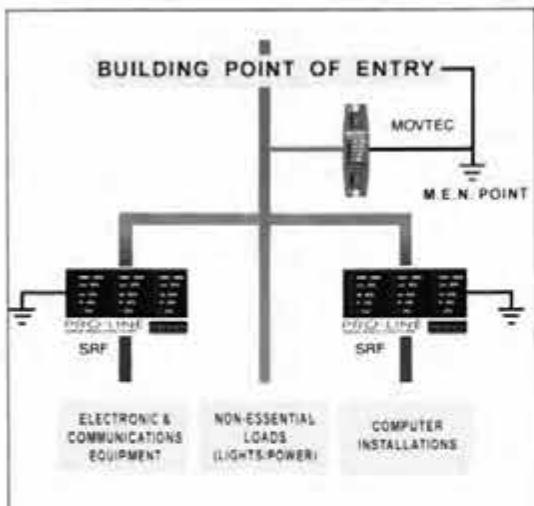

FIGURE 3. Proline SRFs are ideal for point of entry protection of main and sub-circuits
**Proline SRFs must be well earthed** in accordance with relevant National Electricity Standards. It is important to create an equipotential earth plane to eliminate earth loops. Proline SRFs should be installed physically close to the incoming power lines and earthed to the nearest switchboard earth (figure 3). Alternatively, if the Proline SRF is to be installed on a subcircuit it should be earthed in common with the earth of the equipment it is protecting, subject to Standards requirements. SRFs are designed for installation in Multiple Earthed Neutral (MEN) systems, please contact Critec for advice if other systems are in use. SRFs can be installed in front of PABX and at the power entry point for other communication, industrial, or military installations. SRFs are ideal for use in all industries that use electronics or sensitive electrical equipment. SRFs are also commonly installed in front of large Uninterruptible Power Supplies (UPS) to protect both the UPS itself and the load equipment should the UPS switch to by-pass. Proline SRFs have been conservatively designed to improve the operational reliability of equipment and to reduce costly damage and downtime.